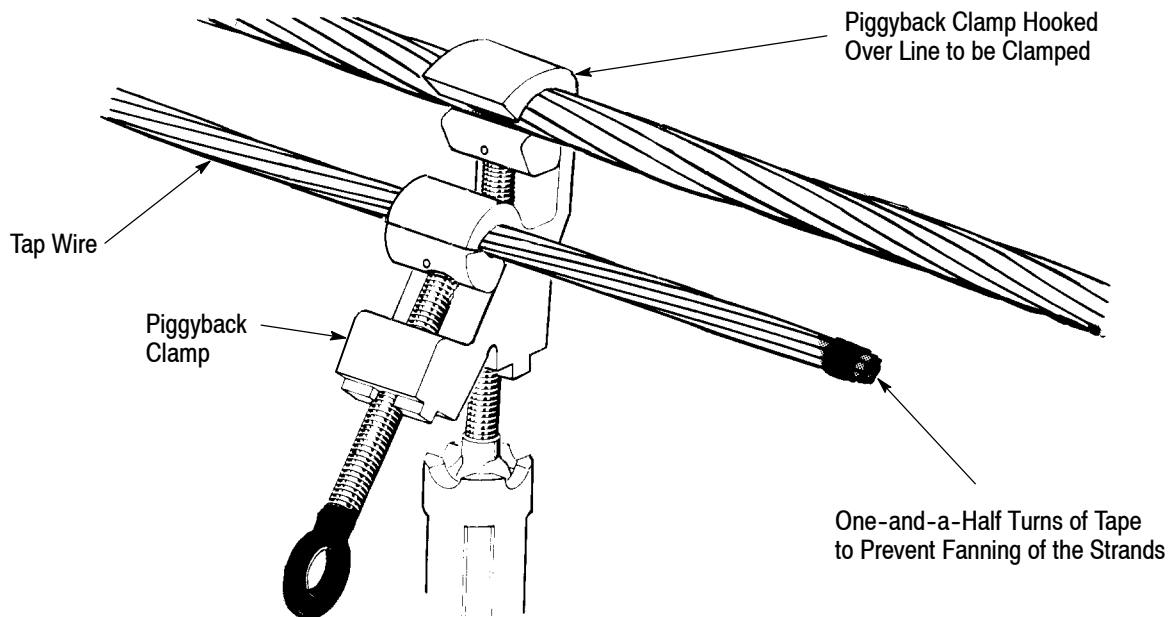

Figure 16
1. Tape wire ends to prevent fanning of strands. Assemble piggyback clamp to tap wire approximately 209.2 mm to 304.8 mm [8 to 12 inches] from wire end, and install the tap wire on through-line as shown in Figure 16.